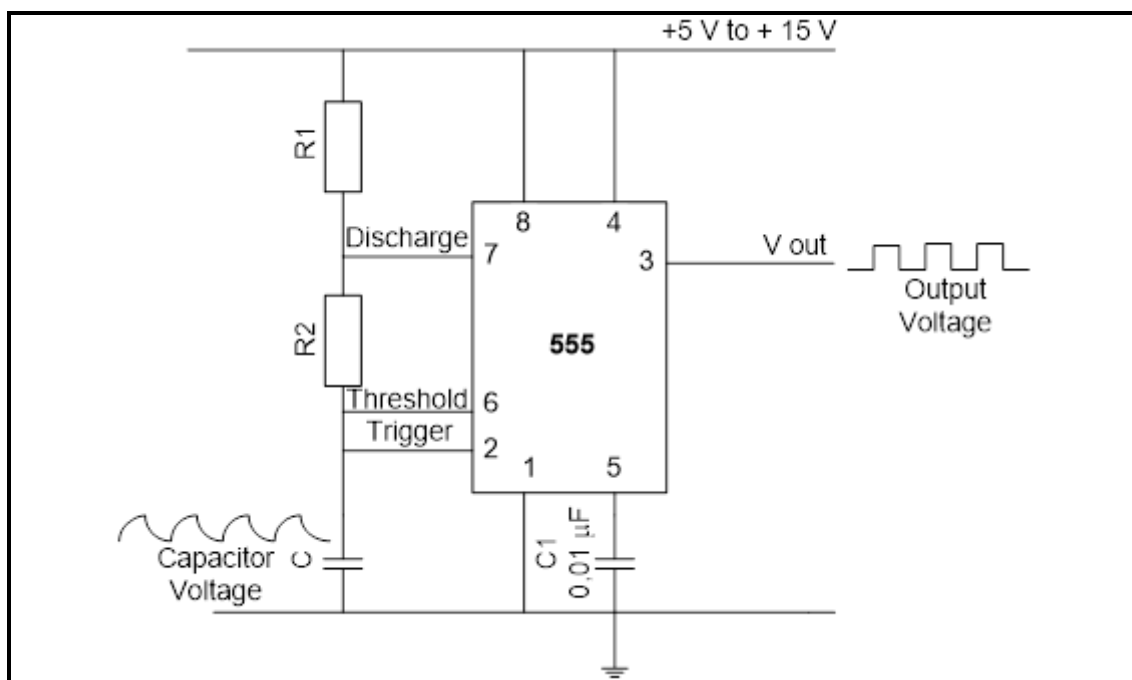

FIGURE 5.6: MULTIVIBRATOR CIRCUIT
- 5.6 FIGURE 5.6 shows a circuit diagram of a multivibrator. Analyse the circuit and answer the questions that follow.
- 5.6.1 Identify the multivibrator circuit shown in FIGURE 5.6. (1)
- 5.6.2 Explain the principle of operation of the circuit in FIGURE 5.6. (3)